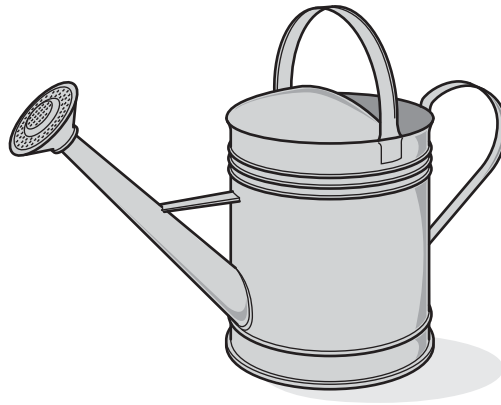

Fig. 8
- (b) Describe in detail how the material surface is prepared and the finish is applied for **two** of the products shown in Fig. 8.